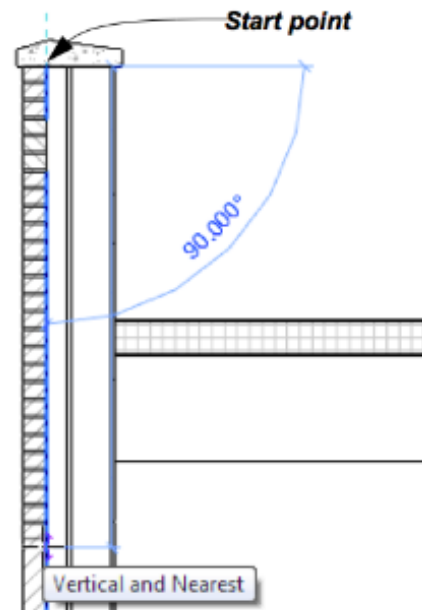

Figure 16–30
3. Draw the brick line from the top of the parapet cap down, as shown in Figure 16–30.